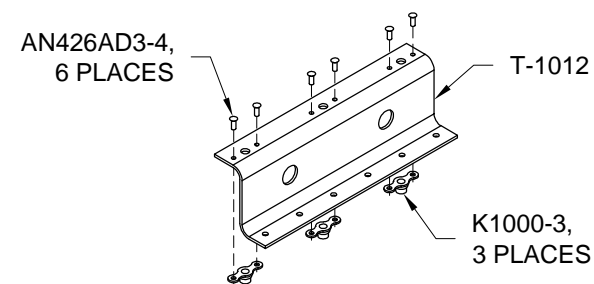

FIGURE 1: T-1012 NUTPLATE ATTACH
Step 1: Cleco nutplates to the T-1012 Tank Attach Zee's as shown in Figure 1. Note that the most inboard tank attach zee does not have nutplates. Final-Drill the nutplate attach rivet holes to #40. Remove the nutplates, countersink the tank attach zee's for the nutplate attach rivets, and deburr holes. Prime all attach zee's if/as desired. Rivet the nutplates to the attach zee's. Read Section 5R for more information on installing nutplates.